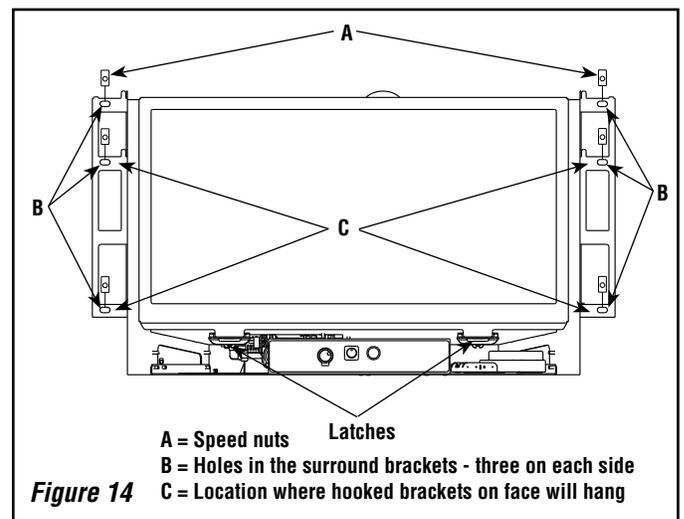

Figure 14
1. Remove the speed nuts (*A in Figure 14*) from the parts bag and install (with the flat surface forward) on the six holes in the surround brackets - three on each side of the insert (*B in Figure 14*). A flat bladed screwdriver may help in installing the nuts.
The faces come with hooked brackets. To install the face, hang the hooked brackets on the surround brackets (See C in **Figure 14**).